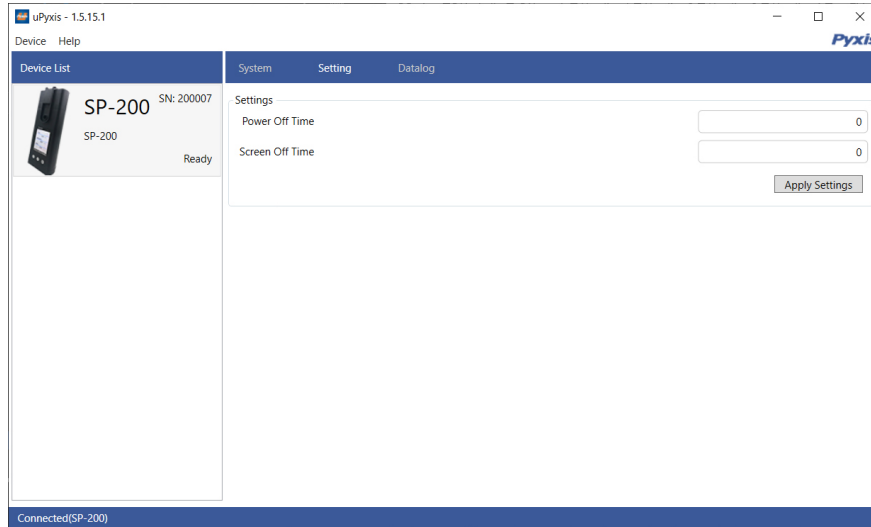

Figure 30.
4. On **uPyxis®** Desktop App, click Device → **Connect via USB-Bluetooth** (Figure 30).
5. If the connection is successful, the SP-200 and its Serial Number (SN) will be displayed in the left pane of the **uPyxis®** window.